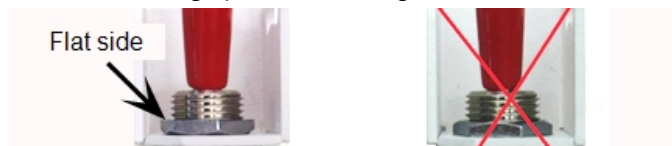

Figure 7: Orientation of the switch nut
- The switch nut is oriented with the flat side facing up, as shown in Figure 7.